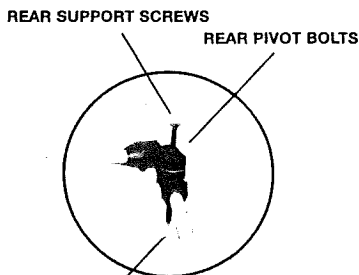

FIG. 4
6. Screw a **3/8-16 HEX NUT** on both of the **REAR SUPPORT SCREWS**. Assemble both screws through the **REAR PIVOT BOLTS** until the ball end protrudes 1/2". Snap **SLIDE BUTTON** on ball of screw which is on guide arm side. (FIG. 4) Snap **HOLD DOWN SOCKET** on ball of screw which is on left side. (FIG. 5)